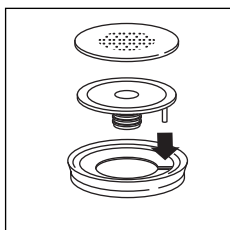
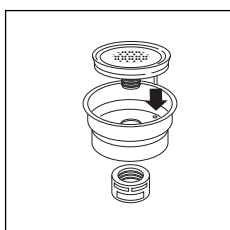

fig. 27
fig. 28
- Replace the filter and gasket on the plastic disk as shown in fig. 27. Make sure to insert the pin on the plastic disk into the hole in the gasket indicated by the arrow in fig. 28.